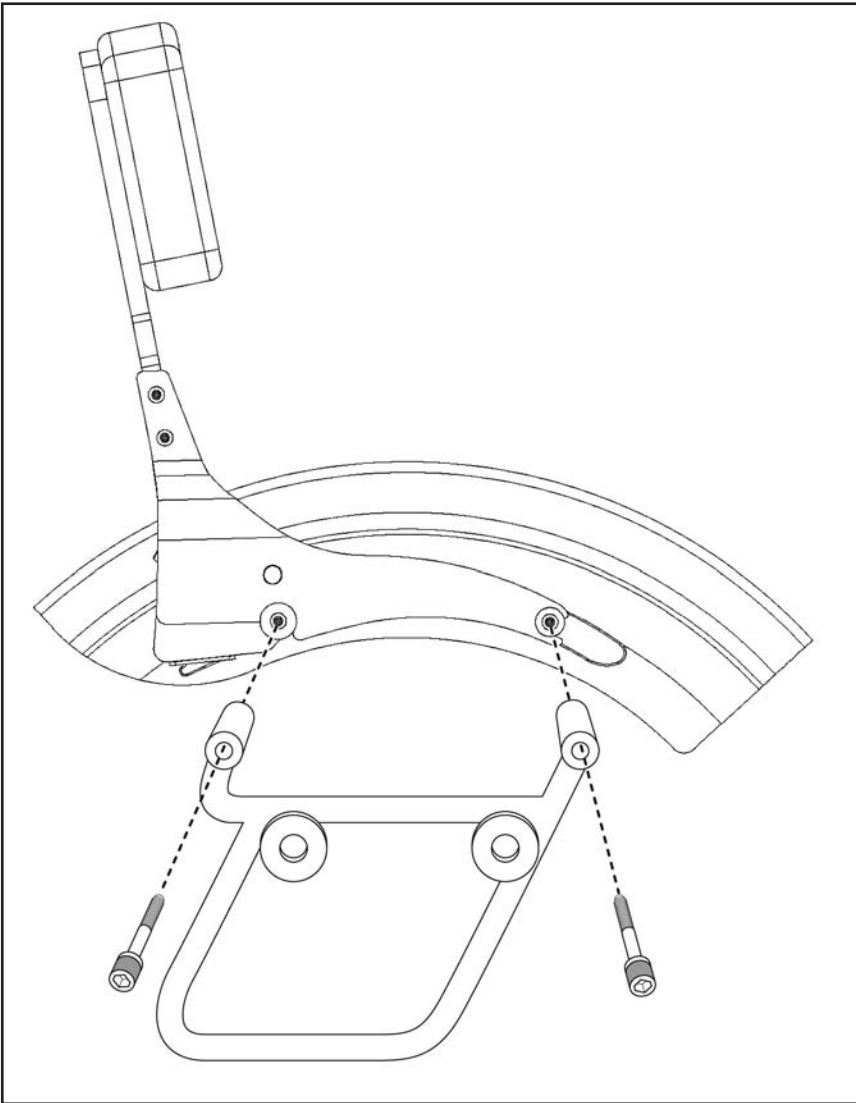

Figure 5
3. Install the frame bracket using the M8-1.25 x 75 screw from Bag 874 of the Cruisliner saddlebag kit at rear. **(5mm Hex Key) Figure 5**
4. Install the front mount point of saddlebag frame with the M8-1.25 x 75 screw. **(5mm Hex Key) Figure 5**